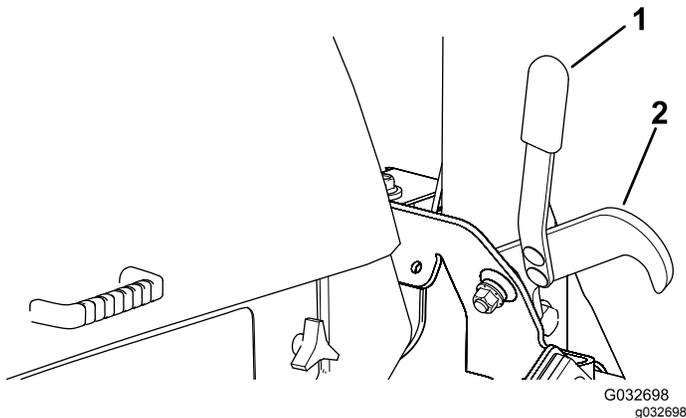

Figure 46
2. Using the handle, unhook the latches holding the decks in the raised position (Figure 46).